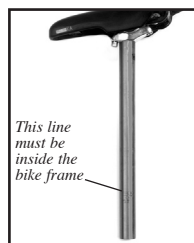

Figure 19- Minimum insertion mark on seatpost
5. Make sure the minimum insertion mark on the seatpost (Figure 19) is not visible above the bike frame. A minimum of 2 1/2 inches (64mm) of seatpost must remain in the frame.
A seatpost that is positioned too high can damage the bike and can cause you to lose control and fall. Make sure the minimum insertion mark (Figure 19) is inside the frame.